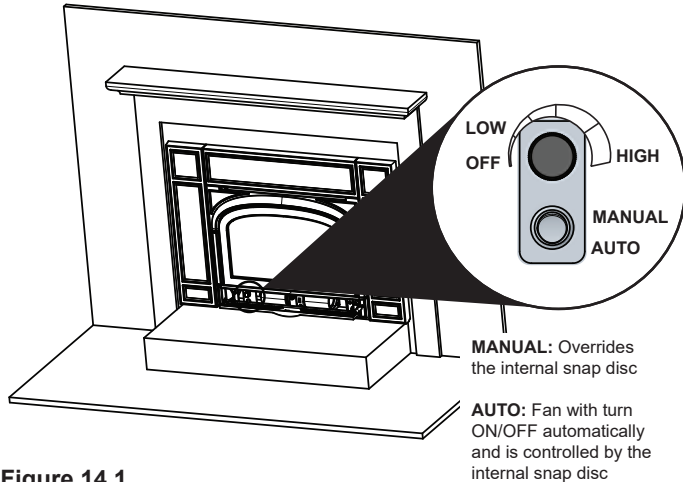

Figure 14.1
1. The blower will turn on/off automatically when set to **AUTO** (Figure 14.1).